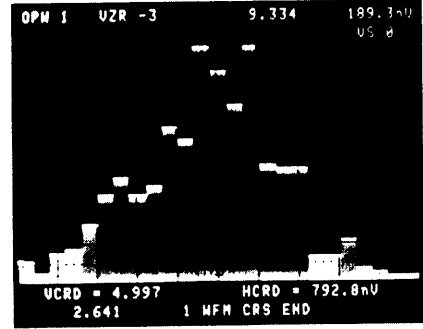

Fig. 22.
Finally, by pressing RUN a histogram of the data is displayed (see Fig. 22). The histogram is derived by means of the data in the created risetime measurement waveform. The values in the risetime waveform are divided into N divisions (number of cells as entered in line 008, 25 in this case). Each point of the waveform is examined and its corresponding cell is incremented. Once all the points have been examined, a cell outline waveform is created (3 WFM). Then the cell outline waveform is multiplied by a waveform that alternates between 0 and 1 to create a closed cell pattern when the waveform is displayed in Vector (VECT) mode. Finally a ramp is created from finding the MAX and MIN values of the original waveform. These values are used for the starting and ending points of the ramp. The cell waveform is then displayed versus the ramp (VS), and cursor one is turned on. By doing this, the VCRD of the cursor represents the number of points of the waveform that falls within that cell's boundary while the HCRD, when positioned at the beginning and ending of each cell, represents the values of the cell boundaries.